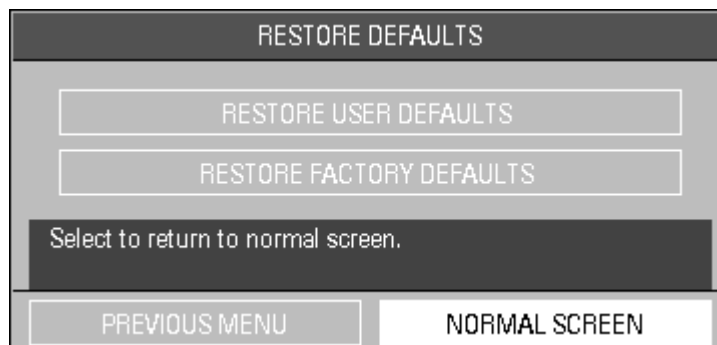

FIGURE 3-1 Restore Defaults Menu
1. Select **RESTORE DEFAULTS** from the **MONITOR SETUP** menu. The **RESTORE DEFAULTS** menu is displayed as shown in FIGURE 3-1.